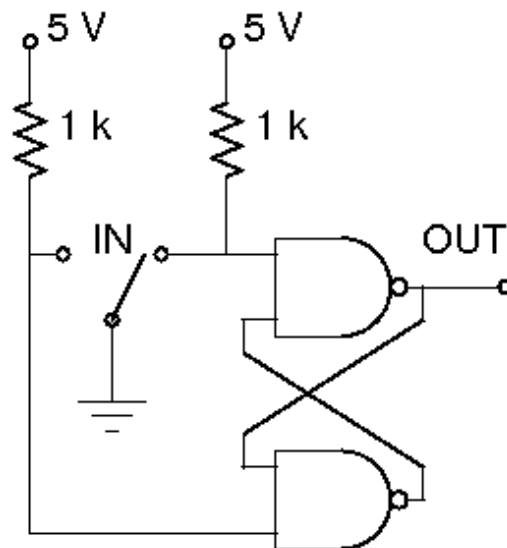

Fig. 9. Debounced switch using 2 NAND gates (“SR Latch”)
1. Using the NAND gate you built above with discrete AND and Inverter gates, build the circuit shown in Figure 9.